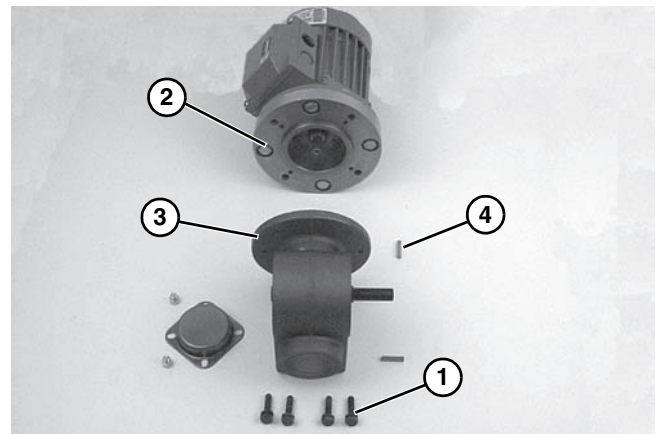

Figure 36
- With key (**Figure 36, item 4**) in keyway, slide motor (**Figure 36, item 2**) and gear reducer (**Figure 36, item 3**) together. Install bolts (**Figure 36, item 1**) and tighten.